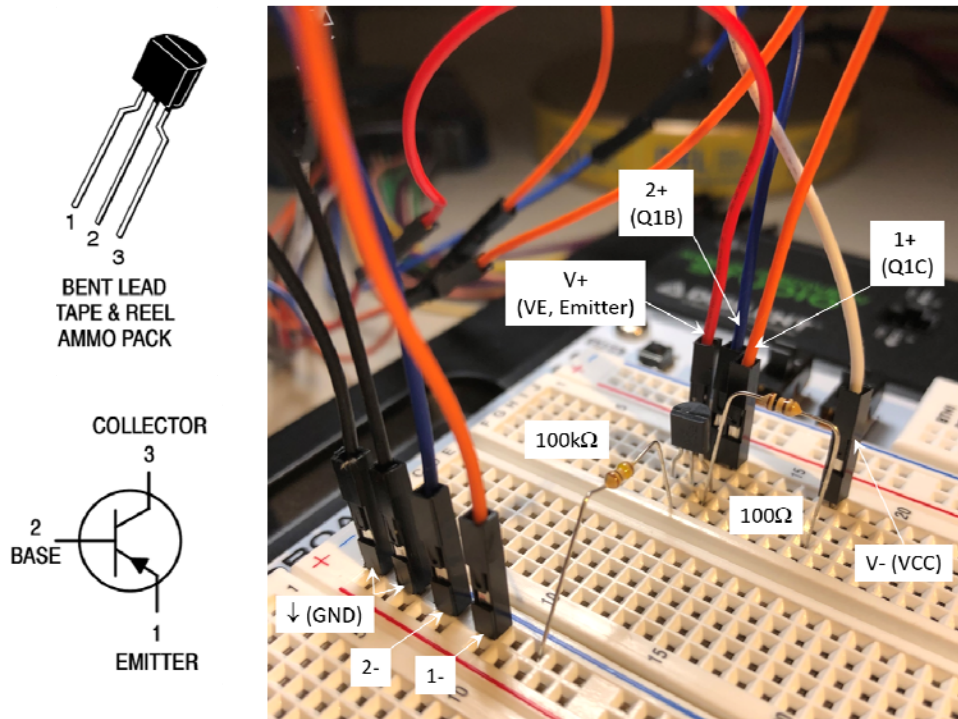

Fig. 4 Experimental setup for the DC Characterization of a PNP-BJT 2N3906
2.5 Prepare the circuit, as shown in Fig. 4, using the same settings for V_E and V_{CC} in steps 2.2 to 2.4, measure the collector voltage V_C and the base voltage V_B , and record the measured data in the columns C and D of the “Measurement” sheet in the excel file “Lab1 Part2 – DC Parameters of PNP-BJT 2N3906”.